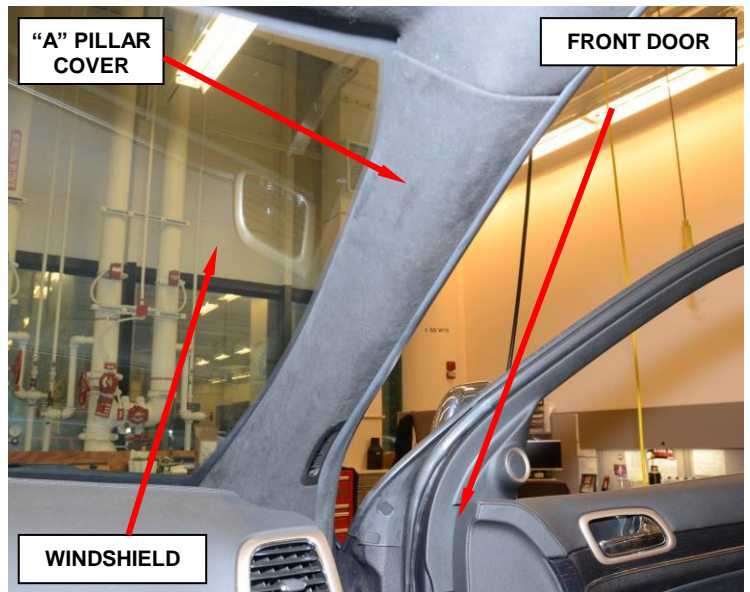

Figure 3 – “A” Pillar Cover (right side shown)
- Remove and save the right and left side “A” pillar covers (Figure 3).
42. Install the right and left side “A” pillar covers (Figure 3).